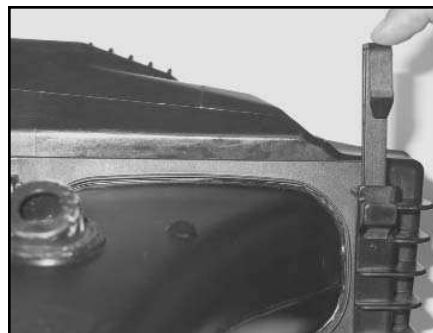

Fig. 4
6. Reinstall both clips that secure the intake snorkel to the air box. (Fig. 4)